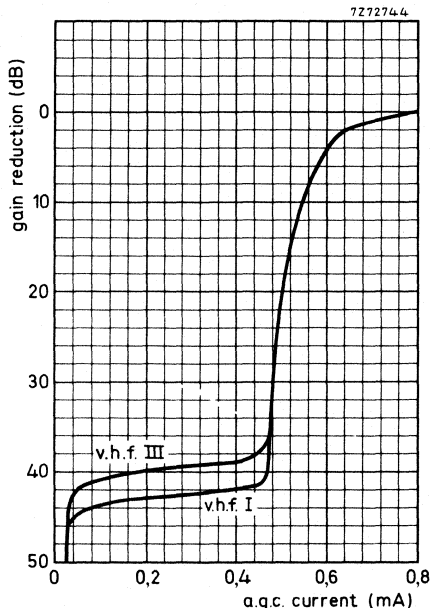

Fig. 7 A.G.C. current characteristic; typical curves.
A.G.C. current (Fig. 7), during gain control